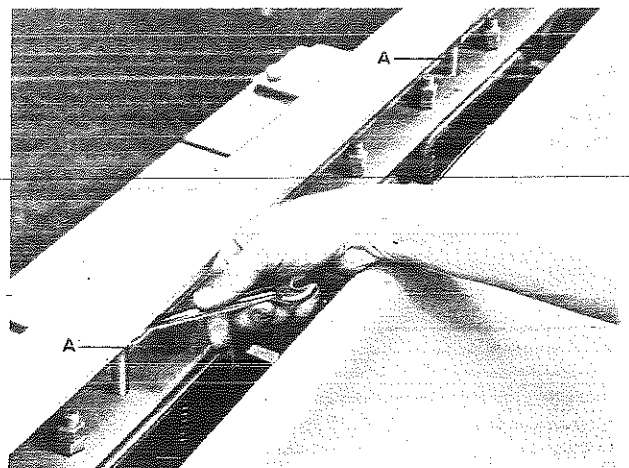

FIG. 4
Turn power off and open disconnect switch. Lower the crosshead to bottom of stroke by engaging the clutch and by turning the shear over by hand (see page 5). Install 1/2"-13 N.C. thread square head set screws 2" long (A) in holes on channel (207) as shown in Fig. 4. One set screw should be installed at each end of the channel. On 8, 10 and 12 foot shears, a set screw should be installed in the center of the channel also. Tighten the set screws until the holddown feet are lifted from the bed. The socket head screws (212) can now be removed and the entire holddown assembly taken from the machine to make the upper knife accessible.